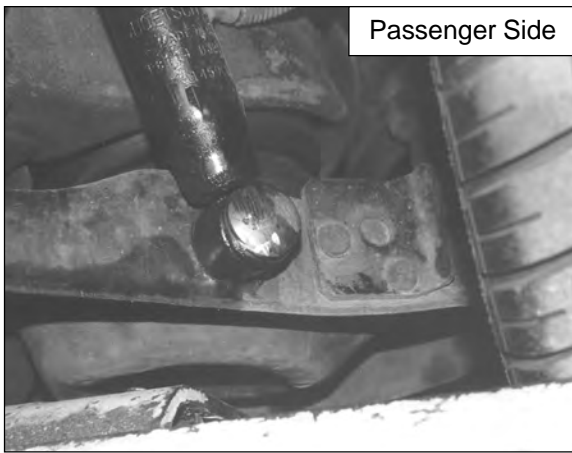

Figure 1
2. Install the shock bolts into the shock bushings (shocks supplied in kit 75430). Install bottom shock bolt and shock into A-arm. (Figure 1).